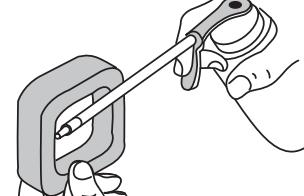

Fig. 18
4. Apply enough clean SAE 30 motor oil to lightly coat the filter (Fig. 18).